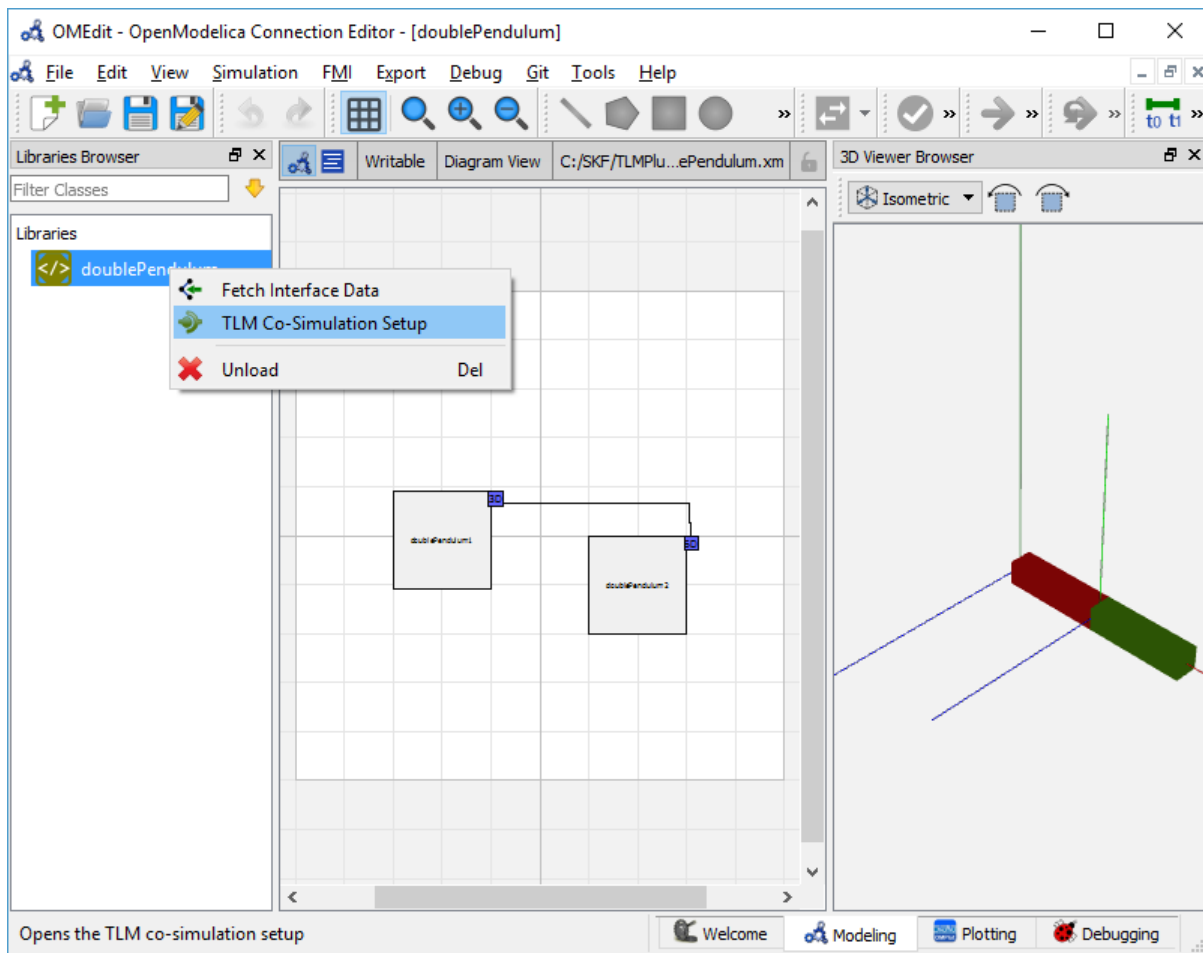

Figure 7.2: Co-simulating and Fetching Interface Data of a composite model from the Popup Menu .
- Right click the composite model in the **Libraries Browser** and choose **TLM Co-Simulation setup** from the popup menu (see Figure 7.2)
- Right click the composite model in the **Library Browser** and choose **Fetch Interface Data** from the popup menu (see Figure 7.2).